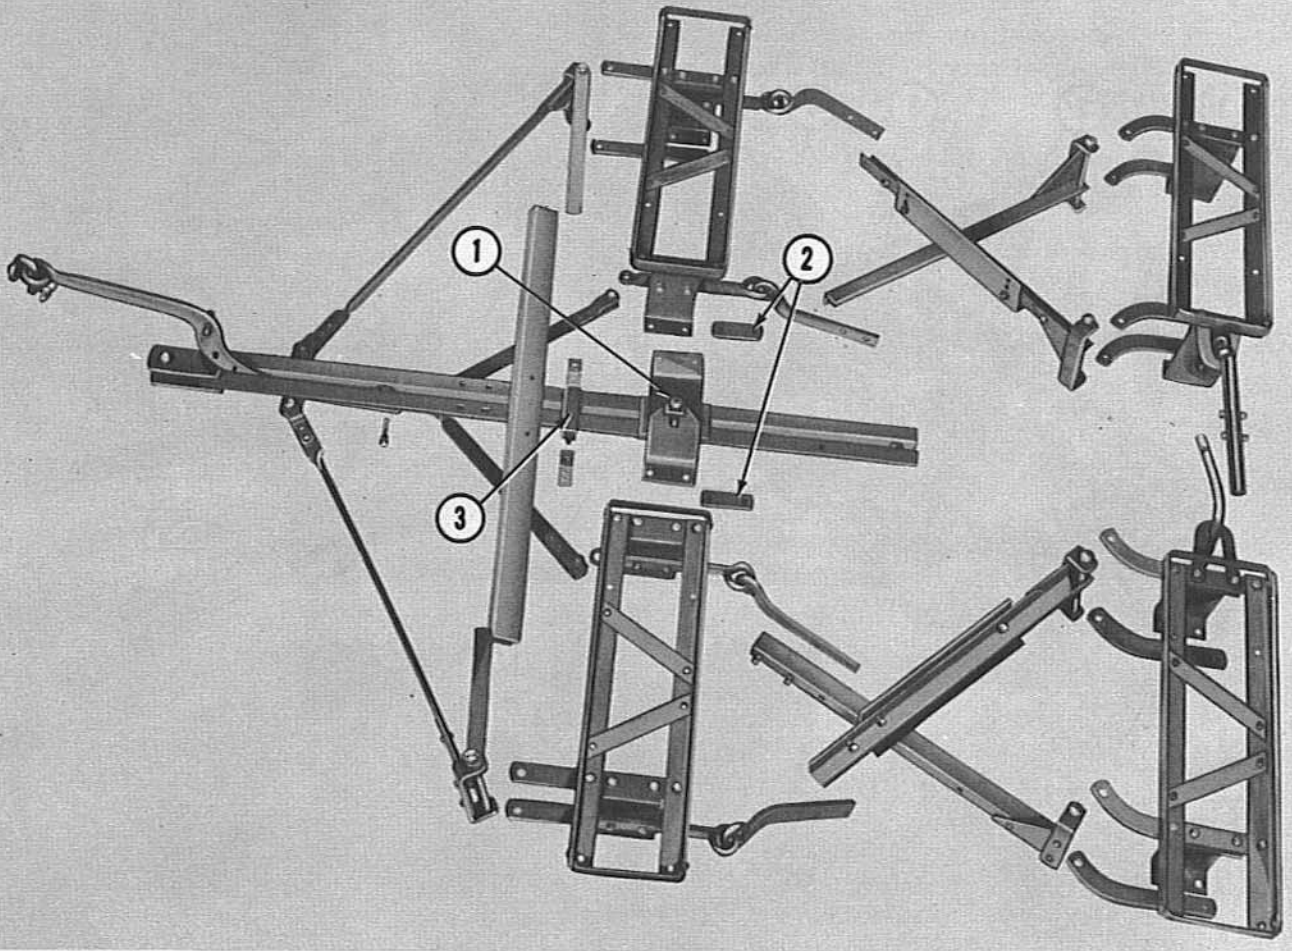
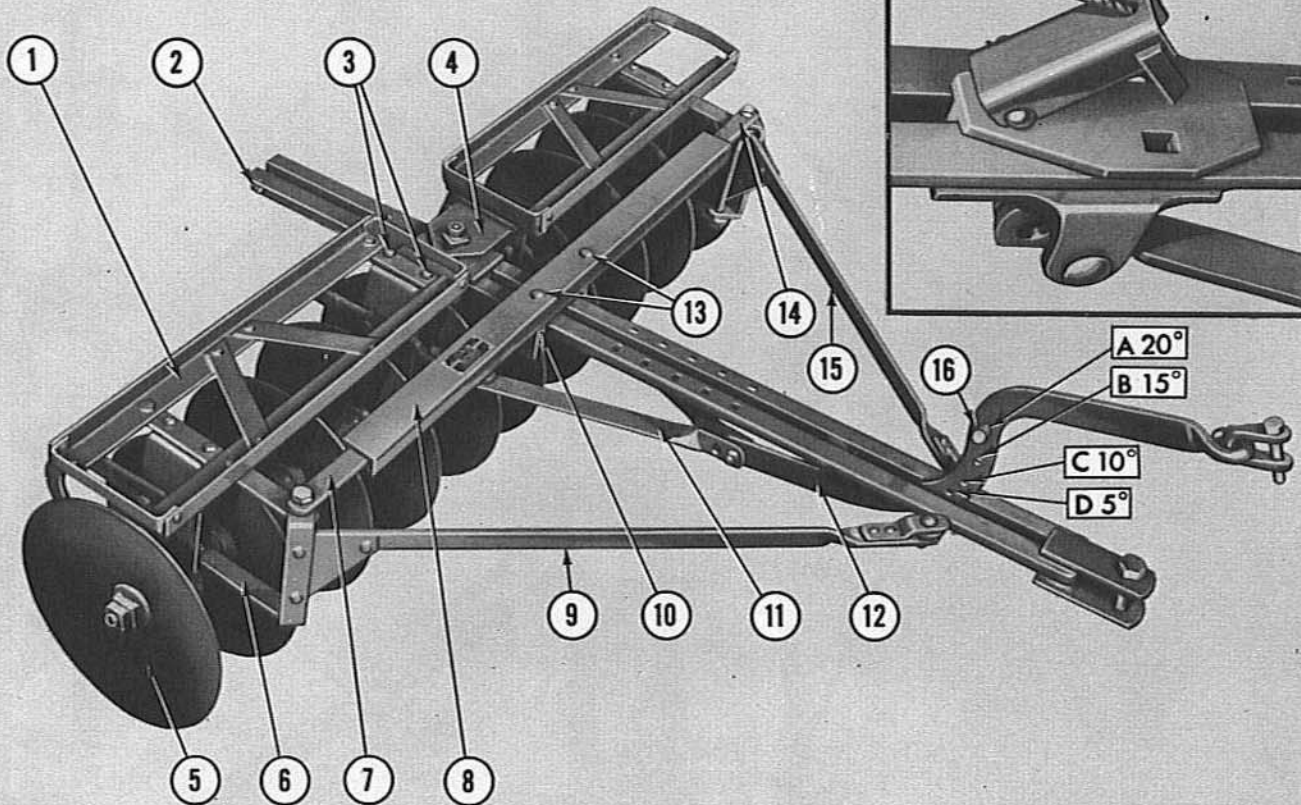

Figure 3
Figure 4
- Cut and remove the wires from the bundles and lay out the parts in their relative positions as shown in Figure 3.
- Position each of the front weight boxes (1), Figure 4, on the disc gangs (5) as shown.
- Position the two spacers (2), Figure 3, on top of the bottom flange of the center hangers.
**NOTE:** If this harrow is purchased with a universal hitch remove the bolt and bushing (2), Figure 4, and the leveling assembly (3), Figure 3. Slide the universal hitch on the tongue as shown in the insert, Figure 4, and replace the leveling assembly. Slide the front gang tie assembly (1), Figure 3, on the tongue and replace the bolt and bushing (2), Figure 4.
- d. Position the outer lower pull straps on top of the outside bottom hanger flanges (see (6), Figure 4) and secure the four bearings to the disc gang hangers with the bearing bolts provided.
- e. Position the harrow tongue assembly between the disc gangs as shown in Figure 4. Insert the two stabilizer tongues (7) and (14), Figure 4, in the stabilizer bar (8) and attach the outer draft bar assemblies (9) and (15) and the stabilizer tongues to the pull straps with the two bolts provided.
- f. Bolt the guide lugs (4), Figure 4, to the inner
- g. Bolt the leveling guide assembly (10), Figure 4, to the stabilizer bar (8) with the bolts (13), lockwashers and nuts provided. Use the center hole in the leveling guide assembly under normal soil conditions. See the paragraph, Leveling Guide Assembly, under ADJUSTMENTS, page 7.
- h. Attach each center draft bar (11), Figure 4, to the links on the inner disc gang hangers with the button head pins and cotter pins provided.
- i. Position the cam angling assembly (12), Figure 4, as shown and attach the assembly to the front hole in the forward end of the center draft bars (11) with the bolt, spacers, flatwashers, lockwasher and nut provided.
**NOTE:** When the harrow is purchased with the universal hitch (see insert, Figure 4), fasten the draft bars (11) to the universal hitch with the bolt, spacer, flatwasher, lockwasher and nut provided.
**Leveling Guide Assembly:** The leveling guide assembly (10), Figure 4, located beneath the stabilizer bar, provides an adjustment for various soil conditions. In most instances, the guide should be installed in the center hole. However, if ridging is encountered between the centers of the front gangs, the leveling guide should be set in the bottom hole. If the centers of the front gangs tend to bury themselves, the guide should be set in the top hole. Any of the three positions will permit complete flexibility of the harrow under all soil conditions.
(A, B, C and D) in the cam angling bar (12), Figure 4, permit the disc gang angle to be controlled when the Implement Position Control Setting of the Ford Tractor Hydraulic mechanism is not being used. When operating the tractor in Constant Draft Control, as in the case of Model 9N and 2N Ford Tractors, position the stop (16) in the hole which gives the desired degree of disc gang angle. To angle the gangs with the universal hitch, raise the pawl as shown in the insert, Figure 4, and move the tractor either forward or rearward to obtain the desired gang angle. Then lower the pawl to maintain the proper angle setting.
**Gang Wear Adjustment:** After the harrow has become worn, it may be advisable to bolt the cam angling bar (12), Figure 4, to the rear hole in the center draft bars (11), Figure 4. The universal hitch, see insert Figure 4, may also be adjusted in this manner to compensate for wear.